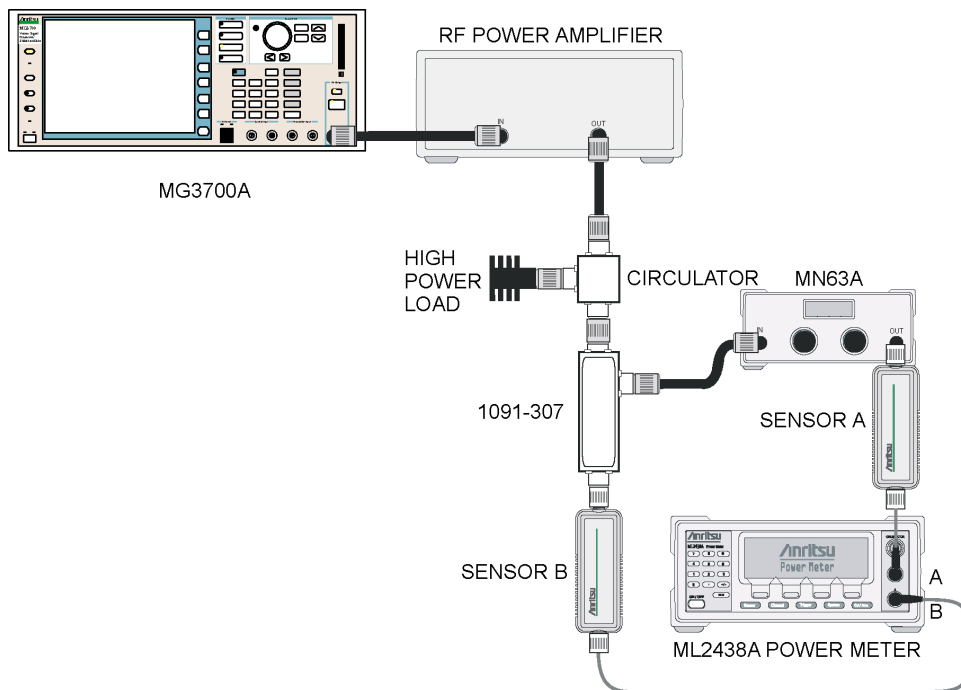

Figure 5-4. WCDMA Absolute Power Accuracy Verification
- Anritsu Model MA2482D Power Sensor (2)
1. Connect the MG3700A, RF power amplifier, attenuator, power meter, and sensors as shown in Figure 5-4.
4. Press the **On/Off** key to turn on the MT8222A and wait until the measurement display appears then press the **Shift** key and press the **Mode** (9) key to activate the mode selection menu.
6. Press the **Shift** key, the **Preset** (1) key, and then the **Preset** submenu key.